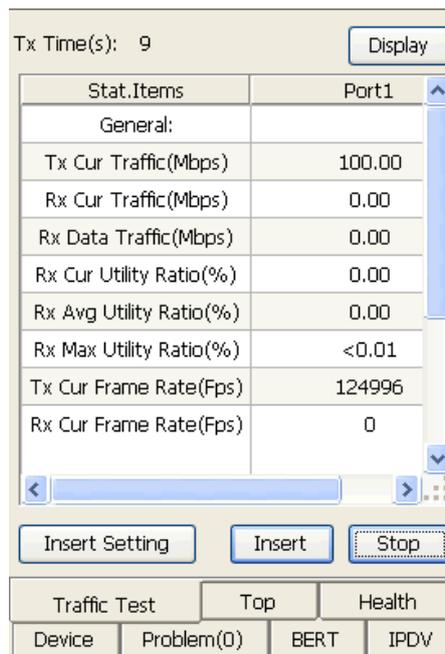

Figure 6.2.7 Traffic Test
**Step2:** Click “Start” to send traffic packets, as is shown in figure 6.2.7.